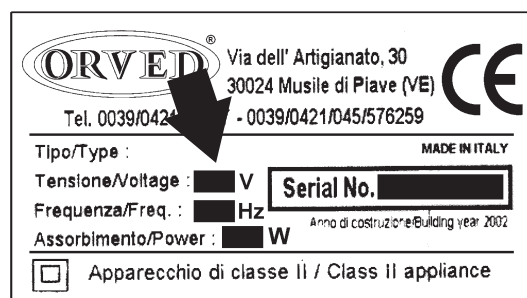

Fig. 1
- Check to make sure the voltage indicated on the machine nameplate corresponds to that of your mains supply (**Fig. 1**).